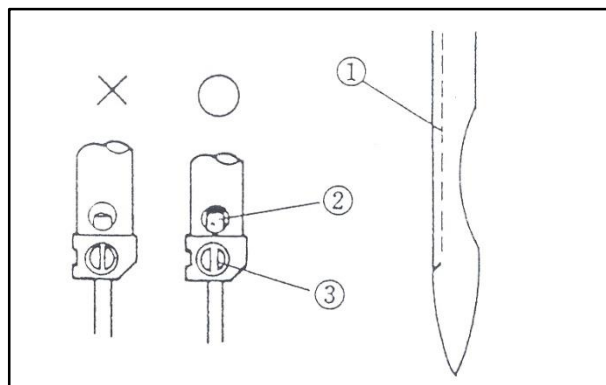

Figure 7.1
Hold the lower punch mark of the needle (1) to face the left. Then make the end of the needle butt up to the upper side of the stopper hole (2). Then secure the needle with the fixing screw (3). (Refer to Fig. 7.1)